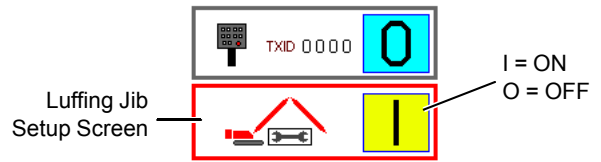

FIGURE 3-7
3. The screen shown in Figure 3-7 will appear.